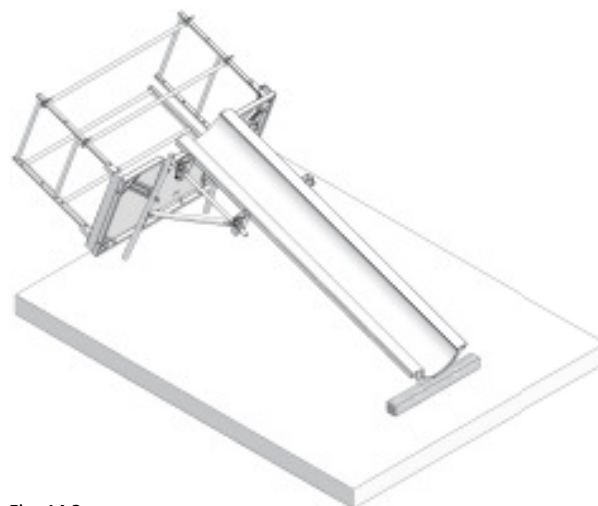

Fig. 14.3
5. Place the semi-circular column half also on the ground for cleaning, the platform must be on the ground side (Fig. 14.3).